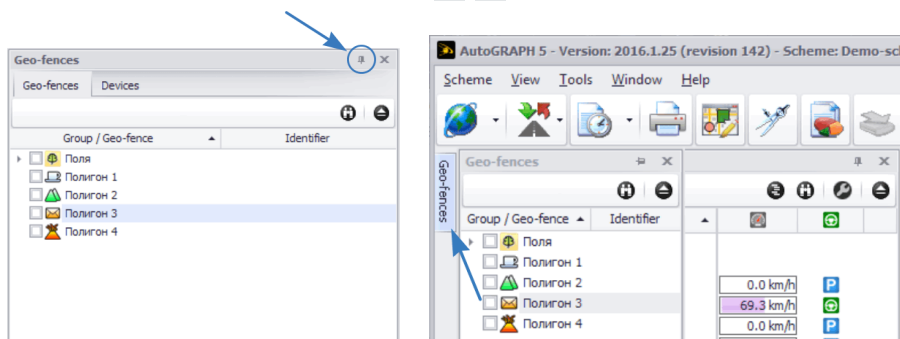

Fig. 12. The module window autohiding.
**Auto hiding on/off** – allows automatic hiding of the module window if it is inactive. The window can be fixed or hidden by pressing button ,  (see **Fig. 12**).